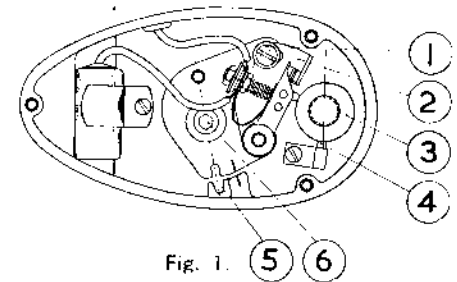

Fig. 1.
The Contact Breaker Assembly is as illustrated in Fig. 1. The Cam (3), and the Magneto Flywheel are located by keys in the Crankshaft and it is not necessary to remove either component when checking timing of the spark. The socket-headed screw (6) is filled with solder before the engine leaves the Works to prevent inadvertent alteration to the timing position. If necessary to re-time the spark proceed as follows:—